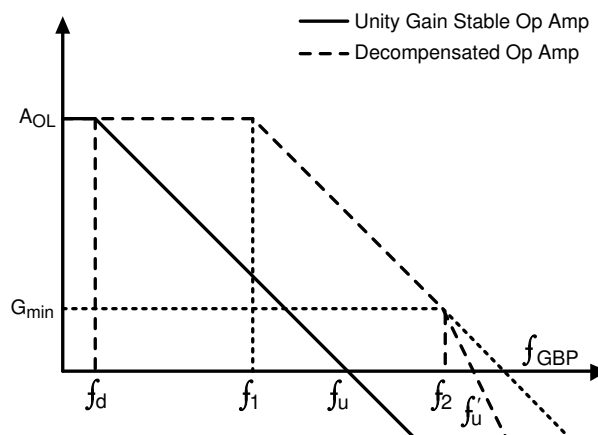

Figure 6-2. Gain vs Frequency Characteristics for a Unity-Gain Stable Op Amp and a Decompensated Op Amp
As shown in Figure 6-2, the dominant pole of a unity-gain stable amplifier, f_d , is moved to the frequency f_1 in the case of a decompensated op amp. The solid A_{OL} plot is the open-loop gain plot of a traditional unity-gain stable op amp. The change in internal compensation in a decompensated amp such as the OPAx371D increases the bandwidth for the same amount of power. Besides the advantages in the above mentioned parameters, an increased slew rate and a better distortion value is achieved because of the higher available loop-gain, compared to the unity-gain counterpart. The most important factor to consider is ensuring that the op amp is in a noise gain (NG) greater than G_{min} . A value of NG lower than G_{min} results in instability, as shown in Figure 6-2, because the $1/\beta$ curve intersects the A_{OL} curve at 40dB/decade. This method of analyzing stability is called the *rate of closure method*. See TI precision labs for a better understanding on device stability and for different techniques of ensuring stability.